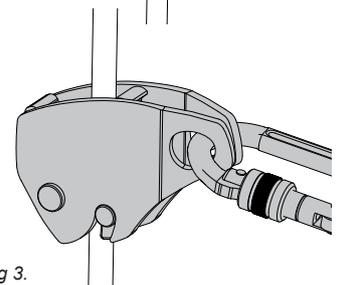

Fig 3.
4. Both side plates are connected together. See fig 3.
Close the front plate and connect back into the connector as shown (fig 3) To remove the device, reverse this process.